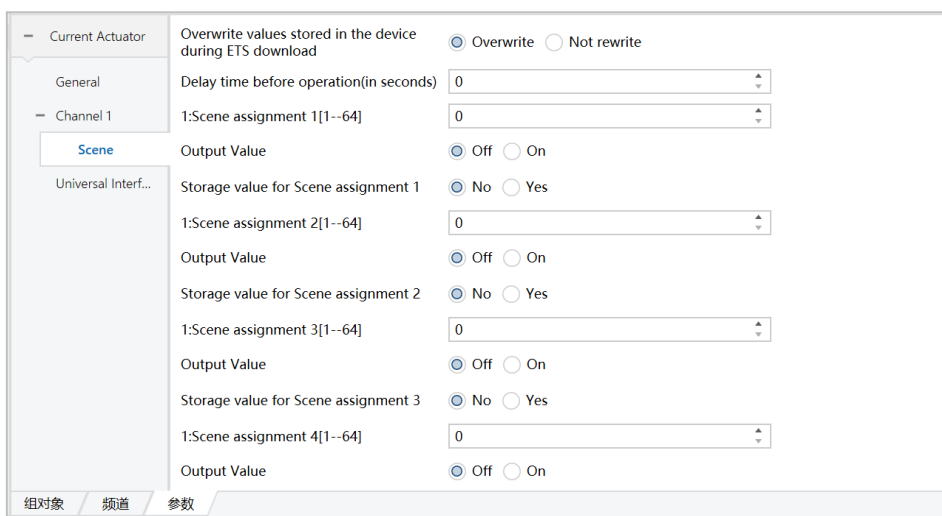

Figure 6.1.4
<p>The "scene" option appears in the channel corresponding to the edge, click "scene" and the interface switches to the one shown in Figure 6.1.4. The parameters in the interface are configured as follows:</p> <ol style="list-style-type: none"> 1. "Overwrite values stored in the device during ETS download "option : ①Overwrite, ②Not parameter Overwrite, ② parameter Not rewrite; 2. "Delay time before operation" indicates the delay time before operation, optionally "1-127" seconds; 3. "Scene assignment 1-64" indicates the setting of the scene number, and the scene number can be set to 1-64; 4. "Output Value" indicates the output value of the corresponding channel operation of the scene number, with the following options: On (on), Off (off); 5. "Storage value for Scene assignment X" indicates the scene learning function of scene number X, (X:1~64), options: No (off), Yes (on), (e.g.: Channel 1 and Channel 2 in the parameter) Select "1" for "Scene assignment 1[1-64]", "Storage value for Scene assignment 1" select "Yes". When "Yes" is selected for the parameter "Scene assignment 1[1-64]" and "Storage value for Scene assignment 1", the communication object takes the group address 3/1/1 as an example, and after the data download is completed, the hand-control operation of CH1 and CH2 on the actuator module will be On, and the "Diagnostic" function will be entered at the "Diagnostic" function on the ETS. At the "Diagnostic" of ETS, input the group address 3/1/1, then select "Learn" in "Value", and choose "1" for the scene number, and send it out on the bus, then the scene number will be "1". (If you send it out on the bus, scene No. "1" is used to learn the status of actuators CH1 and CH2 On).
8-bit scene control	<p>Scene control function, options: Enabled (start), Disabledd (deactivate), when selecting "Enabled", the left side of the interface will show "Enabled", "Disabledd", "Disabledd", "Disabledd", "Disabledd", "Disabledd", "Disabledd", "Disabledd".</p> <p>The "scene" option appears in the channel corresponding to the edge, click "scene" and the interface switches to the one shown in Fig. 6.1.4. The functions in the interface are configured as follows:</p> <ol style="list-style-type: none"> 1. "Overwrite values stored in the device during ETS download "option : ①Overwrite, ②Not parameter Overwrite, ② parameter Not rewrite; 2. "Delay time before operation" indicates the delay time before operation, optionally "1-127" seconds; 3. "Scene assignment 1-64" indicates the setting of the scene number, and the scene number can be set to 1-64; 4. "Output Value" indicates the output value of the corresponding channel operation of the scene number, with the following options: On (on), Off (off); 5. "Storage value for Scene assignment X" indicates the scene learning function of scene number X, (X:1~64), options: No (off), Yes (on), (e.g.: Channel 1 and Channel 2 in the parameter) Select "1" for "Scene assignment 1[1-64]", "Storage value for Scene assignment 1" select "Yes". When "Yes" is selected for the parameter "Scene assignment 1[1-64]" and "Storage value for Scene assignment 1", the communication object takes the group address 3/1/1 as an example, and after the data download is completed, the
<p>8-bit scene control</p>	<p>Scene control function, options: Enabled (start), Disabled (deactivate), when selecting "Enabled", the left side of the interface will show "Enabled", "Disabled", "Disabled", "Disabled", "Disabled", "Disabled", "Disabled", "Disabled".</p> <p>The "scene" option appears in the channel corresponding to the edge, click "scene" and the interface switches to the one shown in Figure 6.1.4. The parameters in the interface are configured as follows:</p> <ol style="list-style-type: none"> 1. "Overwrite values stored in the device during ETS download " , option : ①Overwrite, ②Not parameter Overwrite, ② parameter Not rewrite; 2. "Delay time before operation" indicates the delay time before operation, optionally "1-127" seconds; 3. "Scene assignment 1-64" indicates the setting of the scene number, and the scene number can be set to 1-64; 4. "Output Value" indicates the output value of the corresponding channel operation of the scene number, with the following options: On (on), Off (off); 5. "Storage value for Scene assignment X" indicates the scene learning function of scene number X, (X:1~64), options: No (off), Yes (on), (e.g.: Channel 1 and Channel 2 in the parameter) Select "1" for "Scene assignment 1[1-64]", "Storage value for Scene assignment 1" select "Yes". When "Yes" is selected for the parameter "Scene assignment 1[1-64]" and "Storage value for Scene assignment 1", the communication object takes